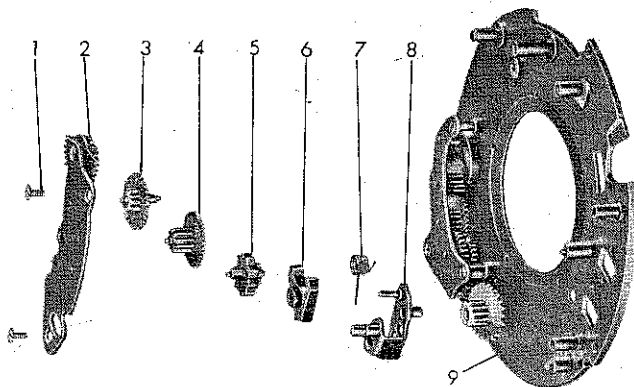

Figure 43—Retard Gear Train, Exploded
(2) RETARD GEAR TRAIN. (See figure 43.)